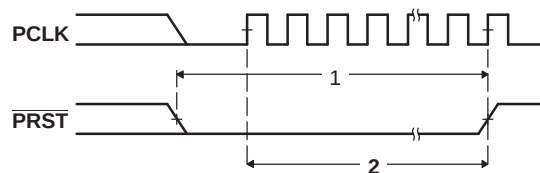

Figure 5-37. PCI Reset ($\overline{PRST}$) Timing
5.11.2 Timing Requirements for PCI Reset (see Figure 5-37)